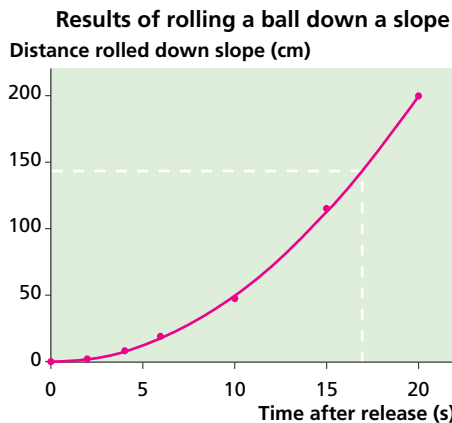

Figure 4 Best-fit graph of continuous variables. It plots the data given in Table 2.
- Only plot the given data, do not put extra points on a curve from which you have been asked to read off a value. Use the 'dotted-line method' to read off values (see Figure 4 on page 6).
The graph shown in Figure 4 is quite different, because the variables are continuous; they could have any value within the range covered by the experiment. In this case, it is obvious that both sets of data are continuous; any value of the time could have been chosen in principle (although very small time intervals would have been difficult to measure with a stopwatch) and the ball might have been at any corresponding distance along the slope. In fact, it would be possible to use the graph to make an estimate of where the ball would have been at say 17 seconds. (Note the dotted lines on the graph.) What do you make of it? Have you noticed the rule that connects distance and time in this experiment?